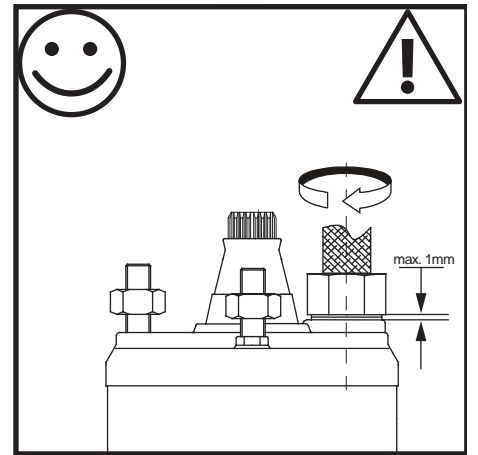

Fig.: 9
4. Insert plug into the socket until the socket thread becomes visible again (fig.9/10).